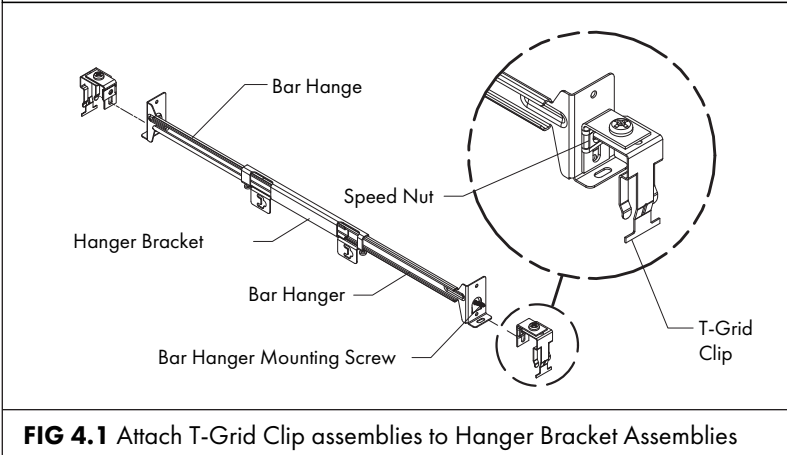

FIG 4.1 Attach T-Grid Clip assemblies to Hanger Bracket Assemblies
STEP 1 Pre-assemble T-Grid Clips to Bar Hangers & tighten Bar Hanger Mounting Screws just enough to allow for vertical adjustment of Hanger Bracket - **FIG 4.1**.